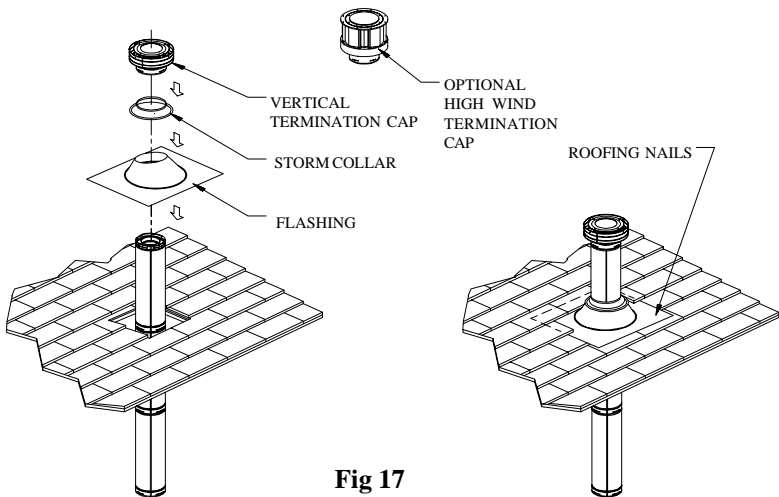

Fig 17
Secure the base of the Flashing to the roof with roofing nails. Use a non-hardening sealant between the uphill edge of the flashing and the roof. Insure the roofing material overlaps the top edge of the Flashing as shown in Fig 17. Verify that you have at least the minimum clearance to combustibles at the roofline.
Step 9. Slip the Storm Collar over the Pipe, and push it down to the top of the Flashing, as shown in Fig 17. Use non-hardening sealant around the joint between the Storm Collar and the Pipe.